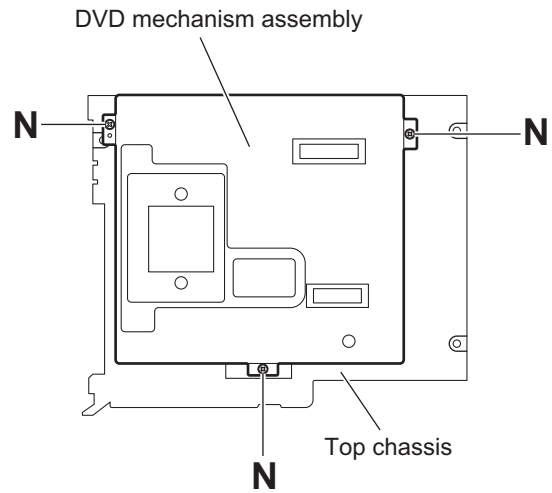

Fig.8
3.1.7 Removing the DVD mechanism assembly (See Fig.8)